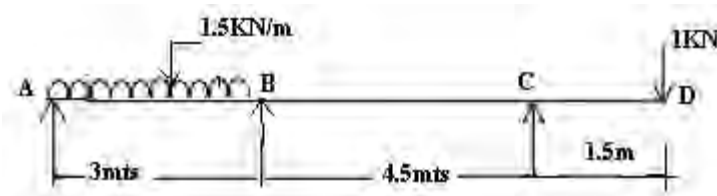

Figure 8:
4. A beam loaded as shown in figure 8. The moment of Inertia of the beam is span AB is 'I' and that in span BC is 2I. Draw the SFD and BMD of the beam. [16]